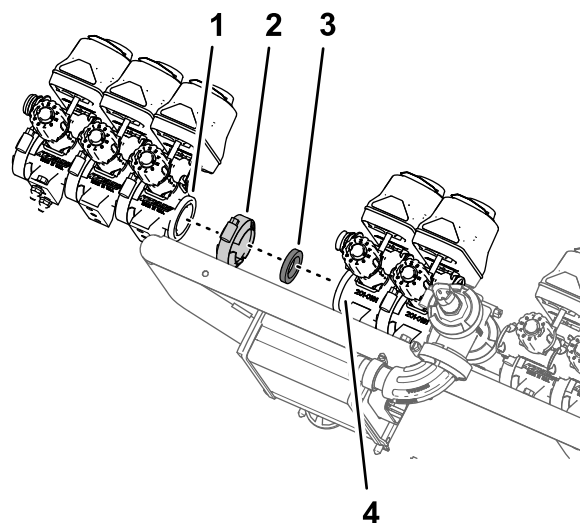

Figure 104
1. Assemble the 3 section valves (Figure 104) that you removed in step 8 of Removing the Section Valves from the Manifold Mount (page 34) onto the flange of valve 7 of the sprayer valve assembly with the flange clamp and gasket that you removed in step 4 of Removing the Section Valves from the Manifold Mount (page 34).